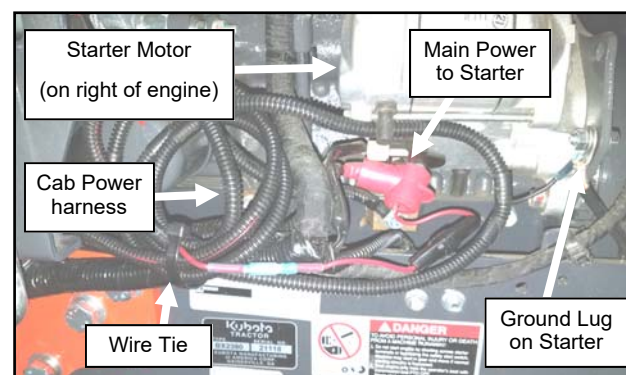

Fig. 19.9 (Connect Harnesses to Starter)
19.9 Locate the fuse harness (WH-GF). Make certain the fuse is installed in the fuse holder, unbolt the main power cable attached to the starter and re-secure with the ring terminal on the fuse harness. See Figure 19.9
19.10 Unbolt the ground wire on the starter bracket and re-secure with the ground terminal on. See Figure 19.9.